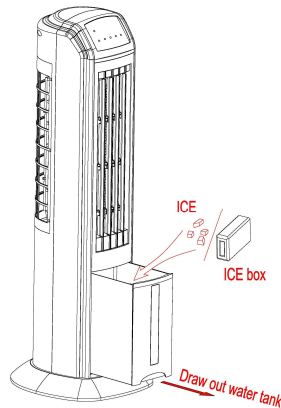

Figure 4
2. For enhanced cooling, ice can be added to the ice box located within the base of the water tank (see Figure 4).